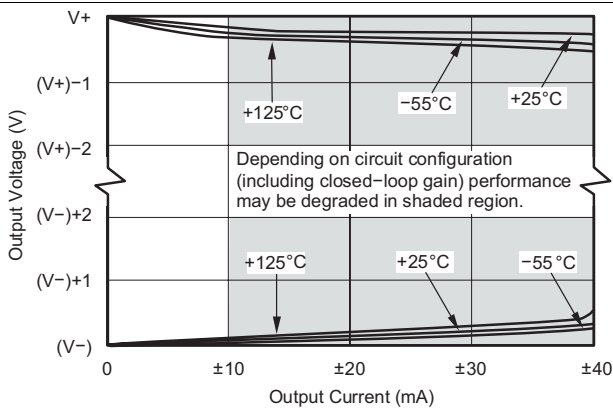
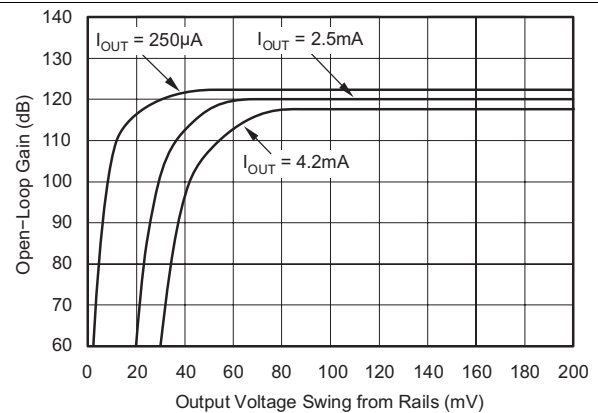

Figure 17. Output Voltage Swing vs Output Current
Figure 18. Open-Loop Gain vs Output Voltage Swing
(4) Output voltage swings are measured between the output and power supply rails.
(5) See Figure 17.
A class AB output stage with common-source transistors achieves rail-to-rail output. For light resistive loads (>10 kΩ), the output voltage swing is typically ten millivolts from the supply rails. With heavier resistive loads (600 Ω to 10 kΩ), the output can swing to within a few tens of millivolts from the supply rails and maintain high open-loop gain. See Figure 17 and Figure 18 for more information.